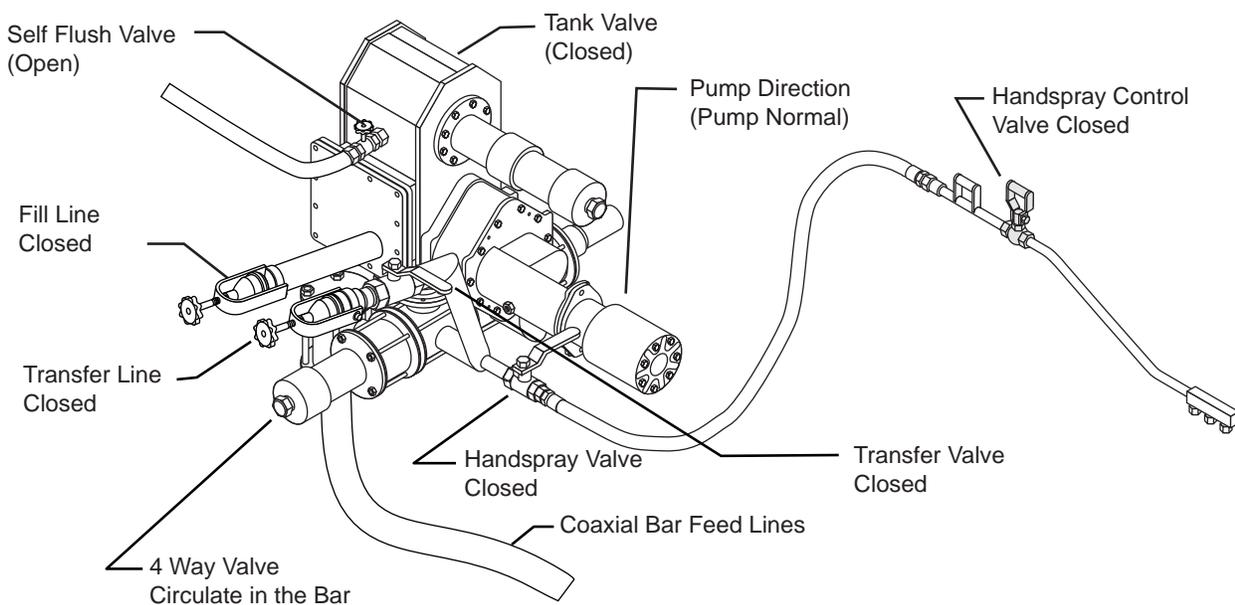

Figure 12. Valve Positions for Flushing Operations
2. Set all of the valve positions (see Figure 12).